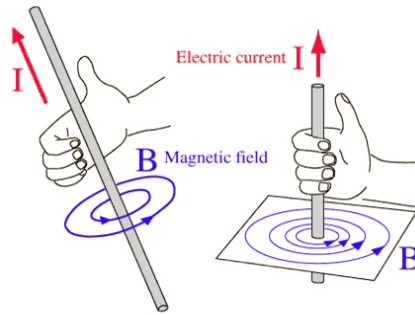

Fig. 2.12.18 Magnetic Field Product by Wire
**NOTE :** For finding the directions of magnetic field or current, use right hand thumb rule i.e if the fingers of the right hand are placed around the wire so that the thumb points in the direction of current flow, then the curling of fingers will show the direction of the magnetic field produced by the wire as shown in the figure below. (Refer to Figure 2.12.18)